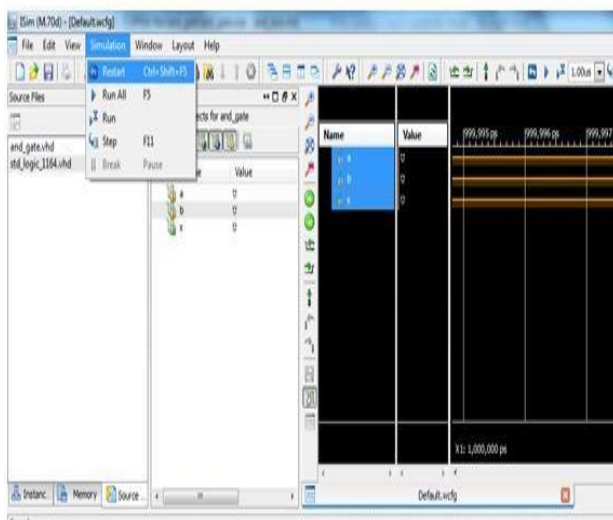
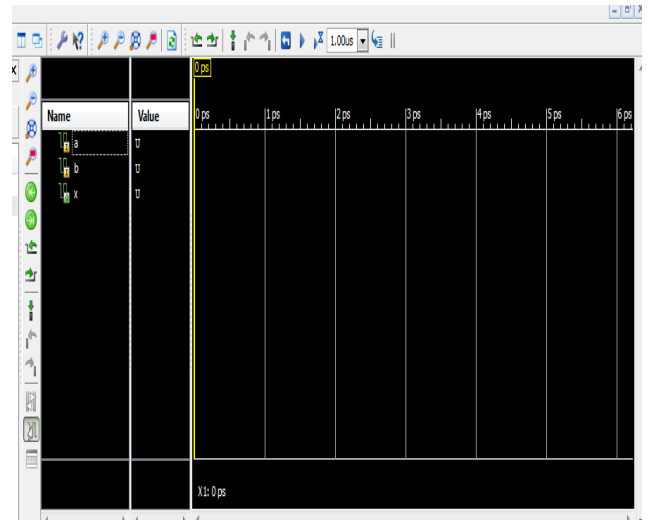

Figure 3: ISim window- Simulation Process
Figure 4: Simulation Process-After Restart
- Select the Simulation from the menu bar and click on Restart as shown in following **figure 3**. After clicking on Restart window (**figure 4**) will appear.